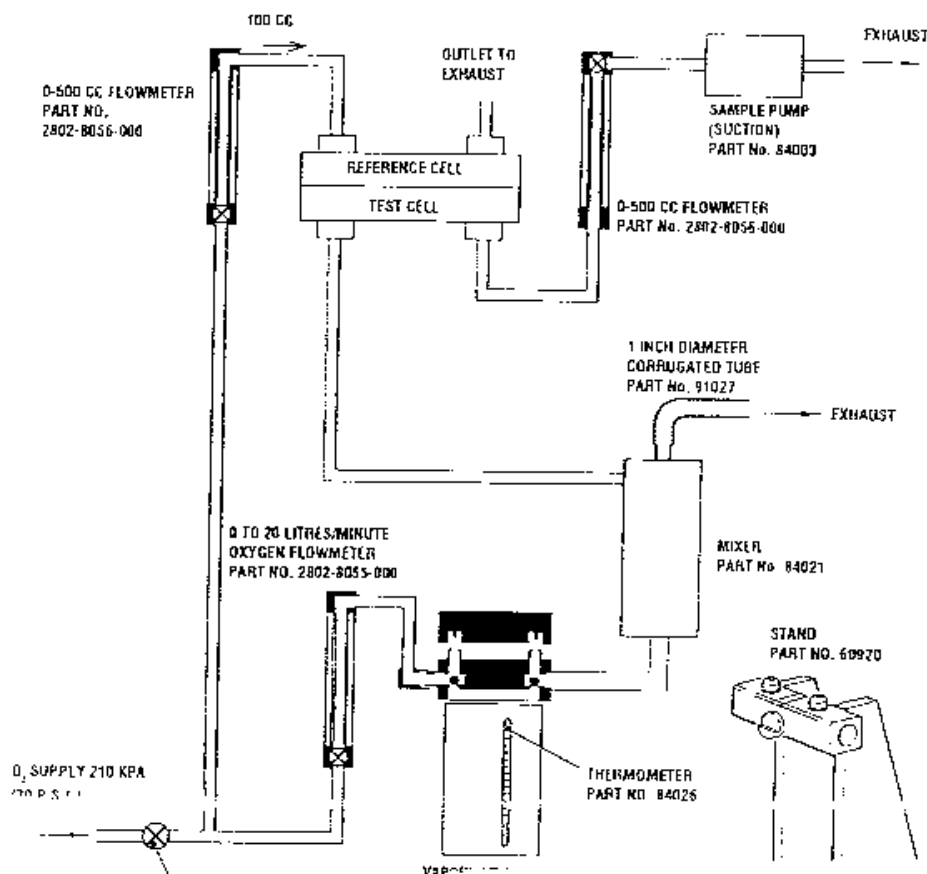

Fig. 5.2 Testing Circuit Arrangement
5.3 Preparing The Vaporizer (Fig. 5.2)
3. Set up the test equipment as shown in Fig. 5.2, turn the vaporizer dial to the OFF position and connect the vaporizer into the circuit.